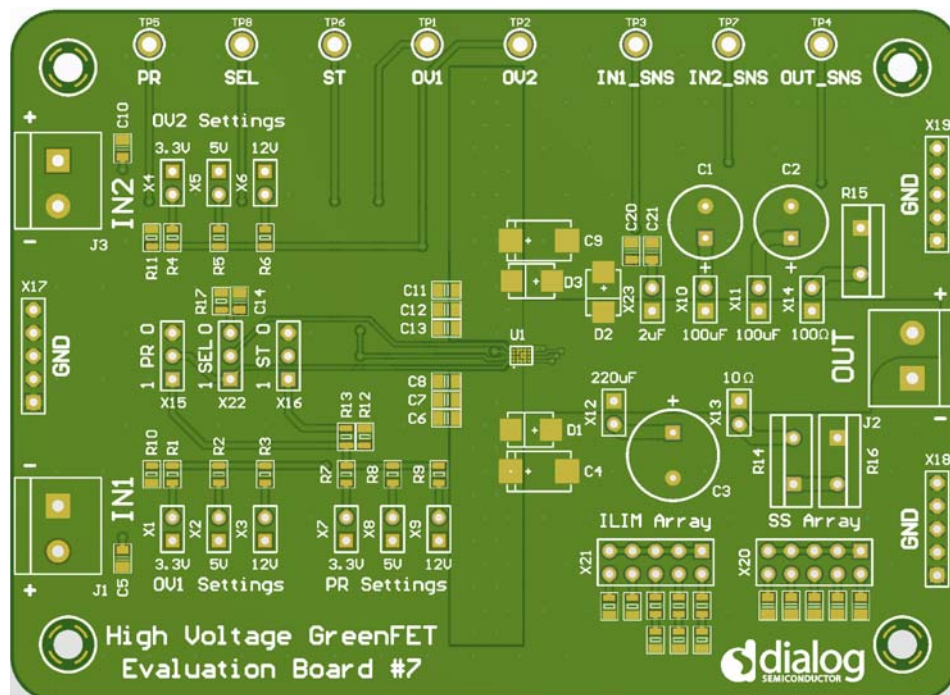

Figure 28. SLG59H1403C Evaluation Board
1. Since the IN[1,2] and OUT pins dissipate most of the heat generated during high-load current operation, it is highly recommended to make power traces as short, direct, and wide as possible. A good practice is to make power traces with an absolute minimum widths of 15 mils (0.381 mm) per Ampere. A representative layout, shown in Figure 28, illustrates proper techniques for heat to transfer as efficiently as possible out of the device;
A High Voltage GreenFET Evaluation Board for SLG59H1403C is designed according to the statements above and is illustrated on Figure 28. Please note that evaluation board has IN[1,2]_Sense and OUT_Sense pads. They cannot carry high currents and dedicated only for $RDS_{ON[1,2]}$ evaluation.